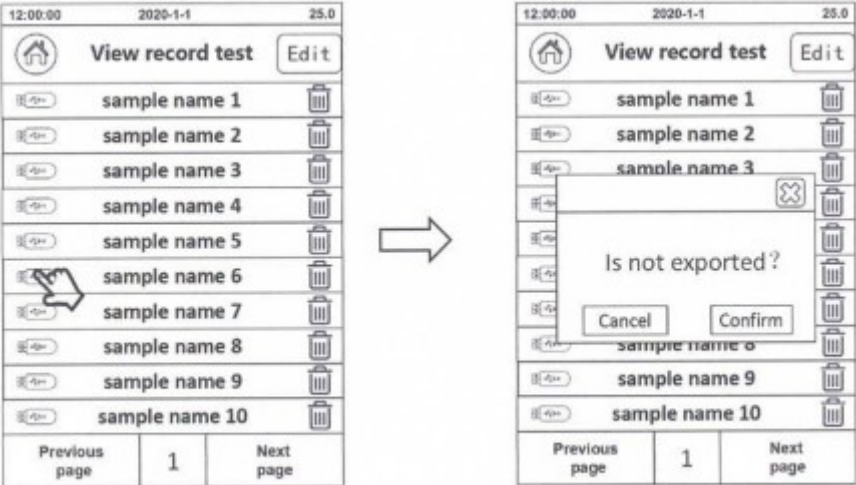

Fig. 26
6.4... Click the IIIIJ icon to delete the selected test data, and click the ~ icon to export the data to a USB flash drive. See Fig.26 for details.